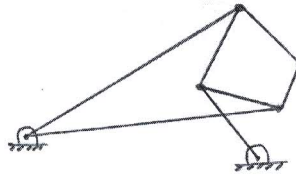

Fig. Q2 (b)
- b. Determine the mobility of the system shown in Fig. Q2 (b). (05 Marks)